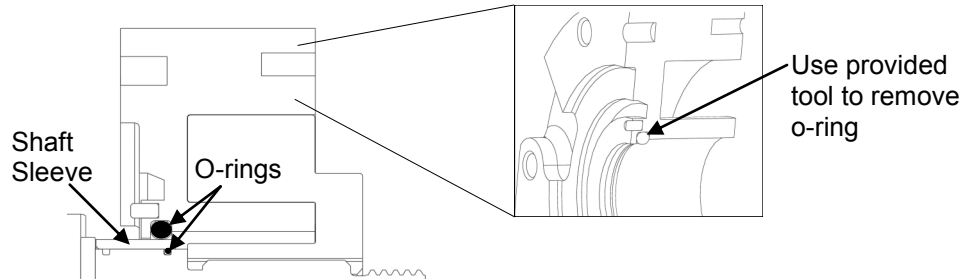

Figure 29: Single O-Ring Seal (Top Shaft)
*Disassembly:* The single o-ring seal option consists of two shaft sleeves and four o-rings (Figure 29). Remove the body o-rings using the tool provided by Ampco (discard o-rings). Slide the shaft sleeves off the shafts and inspect for damage. Do not re-use sleeves that are damaged (sleeve surface grooved or scratched). Remove shaft o-rings and discard them.